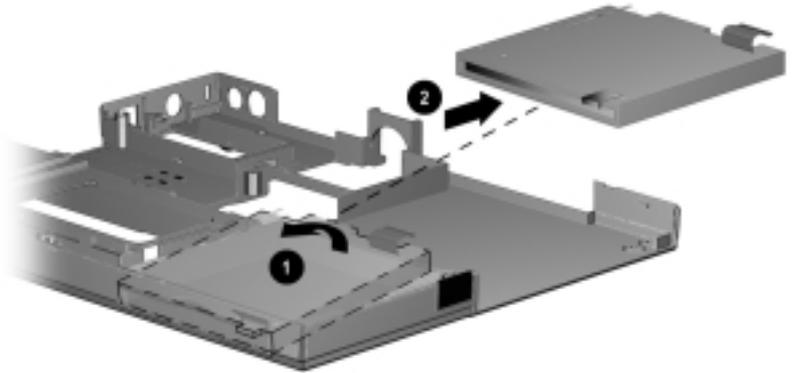

Figure 5-34. Removing the Diskette Drive
2. Lift the back edge of the diskette drive ❶ and swing it up and toward the front of the base assembly ❷ (Figure 5-34).